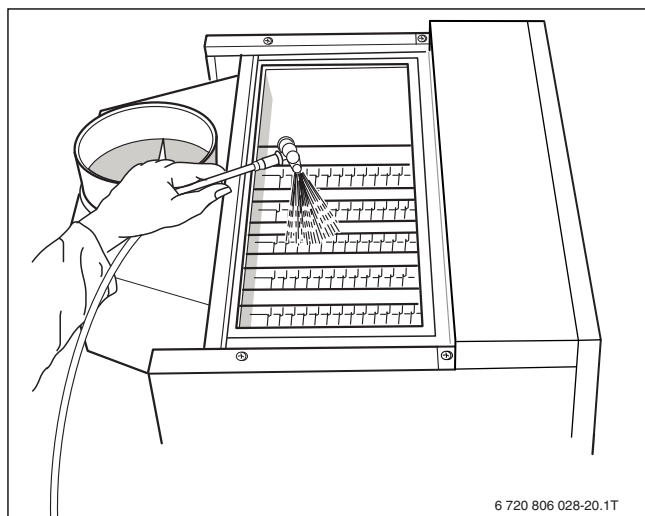

Fig. 34 Wet cleaning the boiler
- Spray cleaning agent evenly from the top into the hot gas flues (→ Fig. 34).